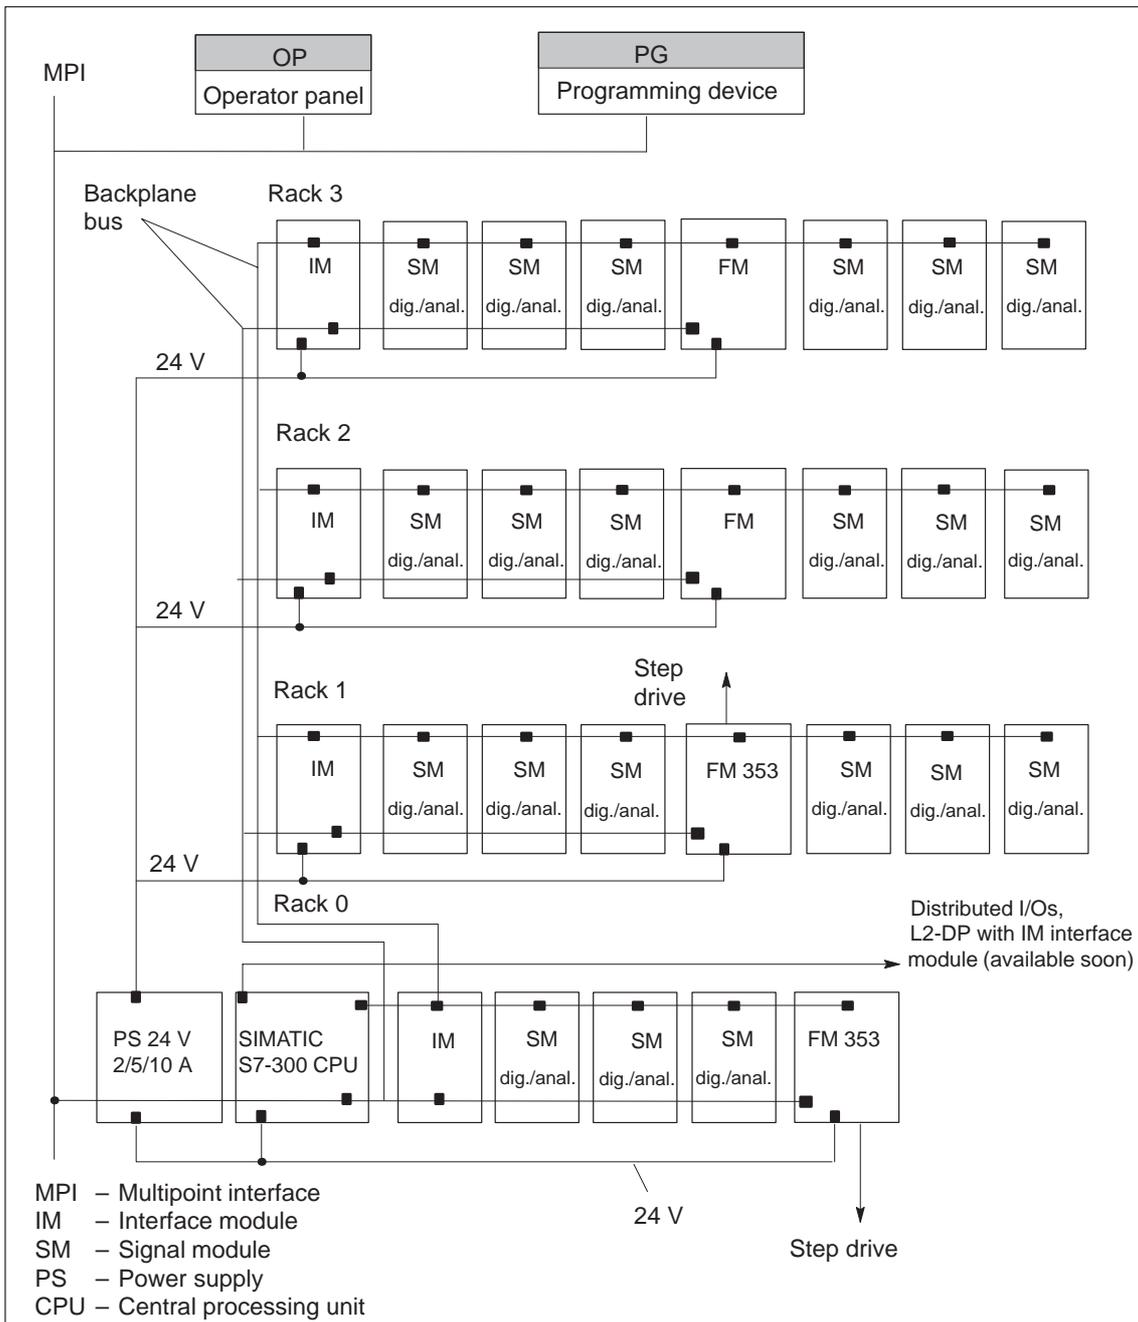

Fig. 1-1 Multi-rack configuration of a SIMATIC S7-300 with FM 353 (example)
A SIMATIC S7-300 CPU may run up to four racks with as many as eight bus stations each (see Figure 1-1).
Interface module (IM)	– connects the individual cells of an S7-300 with one another (applies to multi-rack configuration; see Figure 1-1).